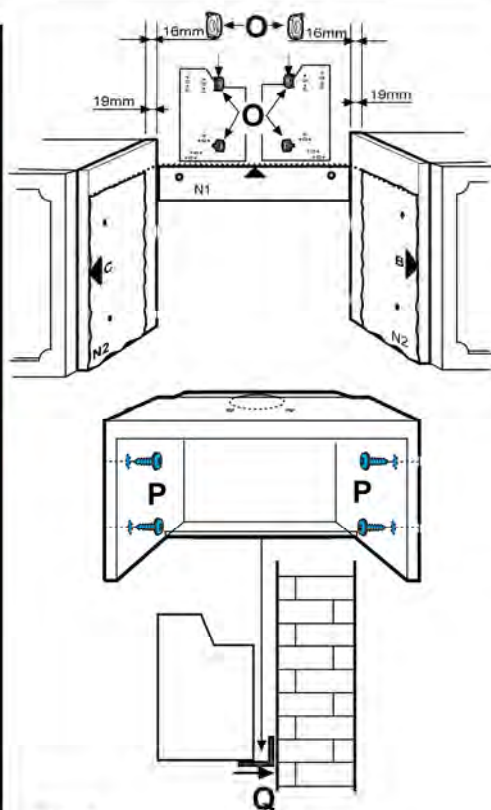

Fig. 8
- Use perforation diagram **N2** (*). Position the diagram on the front edges of the wall unit (right wall unit, B side) – (left wall unit, C side) **WITHOUT CONSIDERING THE THICKNESS OF THE DOORS**, and make the holes as indicated. Fig. 8
put, with embedded fixing, the **O** (*) spacers at the sides of the hood in correspondence with the holes used for the passage of the fixing screws to the lateral wall units. **Fig. 8.**
- f. Fix the hood to the lateral wall units with 4 screws **P**. **Fig. 8**